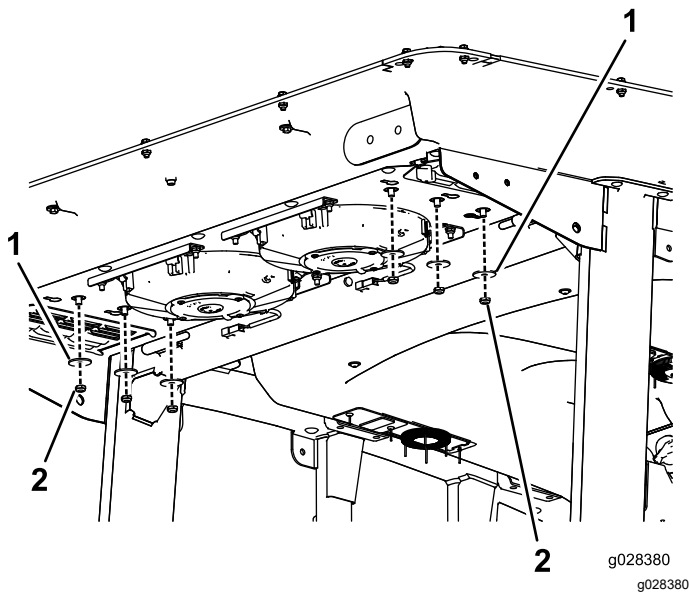

Figure 137
- 2. Remove the 6 nuts and washers from the bottom of the rear of the cab (Figure 137).